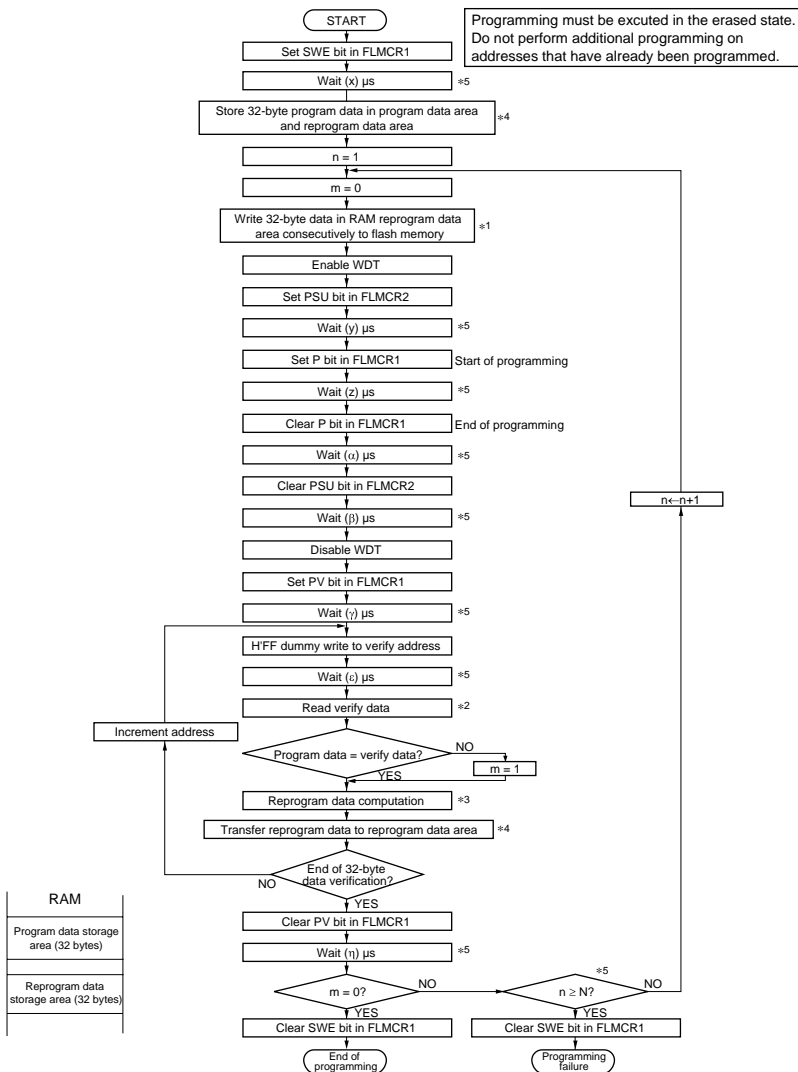

Figure 7.12 Program/Program-Verify Flowchart
Follow the procedure shown in the program/program-verify flowchart in figure 7.12 to write data or programs to flash memory. Performing program operations according to this flowchart will enable data or programs to be written to flash memory without subjecting the device to voltage stress or sacrificing program data reliability. Programming should be carried out 32 bytes at a time.
After the elapse of a given programming time, the programming mode is exited (the P bit in FLMCR1 is cleared, then the PSU bit in FLMCR2 is cleared at least (α) μ s later). The watchdog timer is cleared after the elapse of (β) μ s or more, and the operating mode is switched to program-verify mode by setting the PV bit in FLMCR1. Before reading in program-verify mode, a dummy write of H'FF data should be made to the addresses to be read. The dummy write should be executed after the elapse of (γ) μ s or more. When the flash memory is read in this state (verify data is read in 16-bit units), the data at the latched address is read. Wait at least (ϵ) μ s after the dummy write before performing this read operation. Next, the originally written data is compared with the verify data, and reprogram data is computed (see figure 7.12) and transferred to the reprogram data area. After 32 bytes of data have been verified, exit program-verify mode, wait for at least (η) μ s, then clear the SWE bit in FLMCR1. If reprogramming is necessary, set program mode again, and repeat the program/program-verify sequence as before. However, ensure that the program/program-verify sequence is not repeated more than (N) times on the same bits.